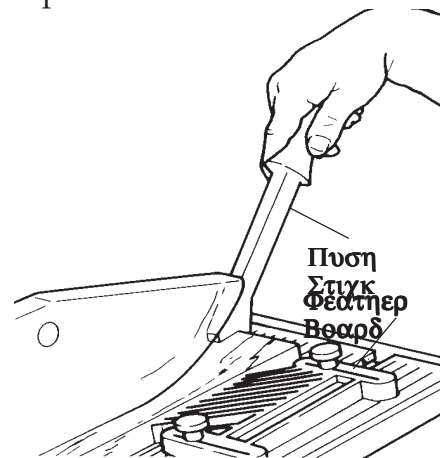

Figure D-7
3. Turn the machine on and set the correct speed. Feed the stock into the blade while keeping it pressed firmly against the fence. Use a push stick or push block to finish the cut. See Figure D-7.